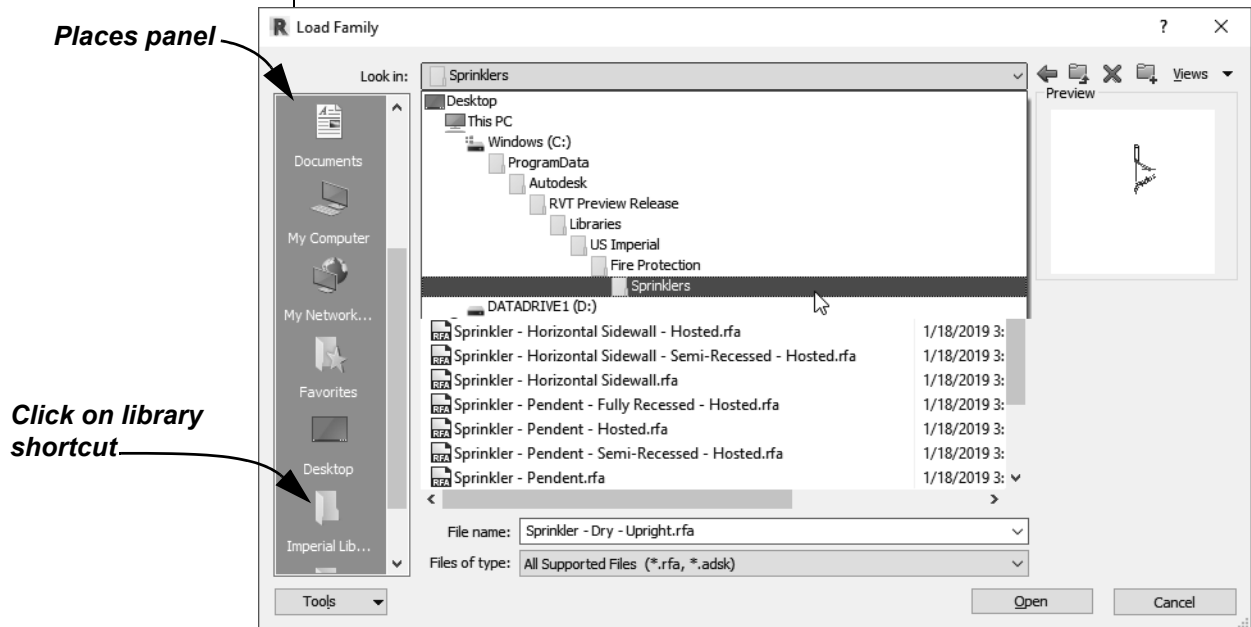

Figure 2–22
2. In the Load Family dialog box, locate the folder that contains the family or families you want to load, as shown in Figure 2–22.